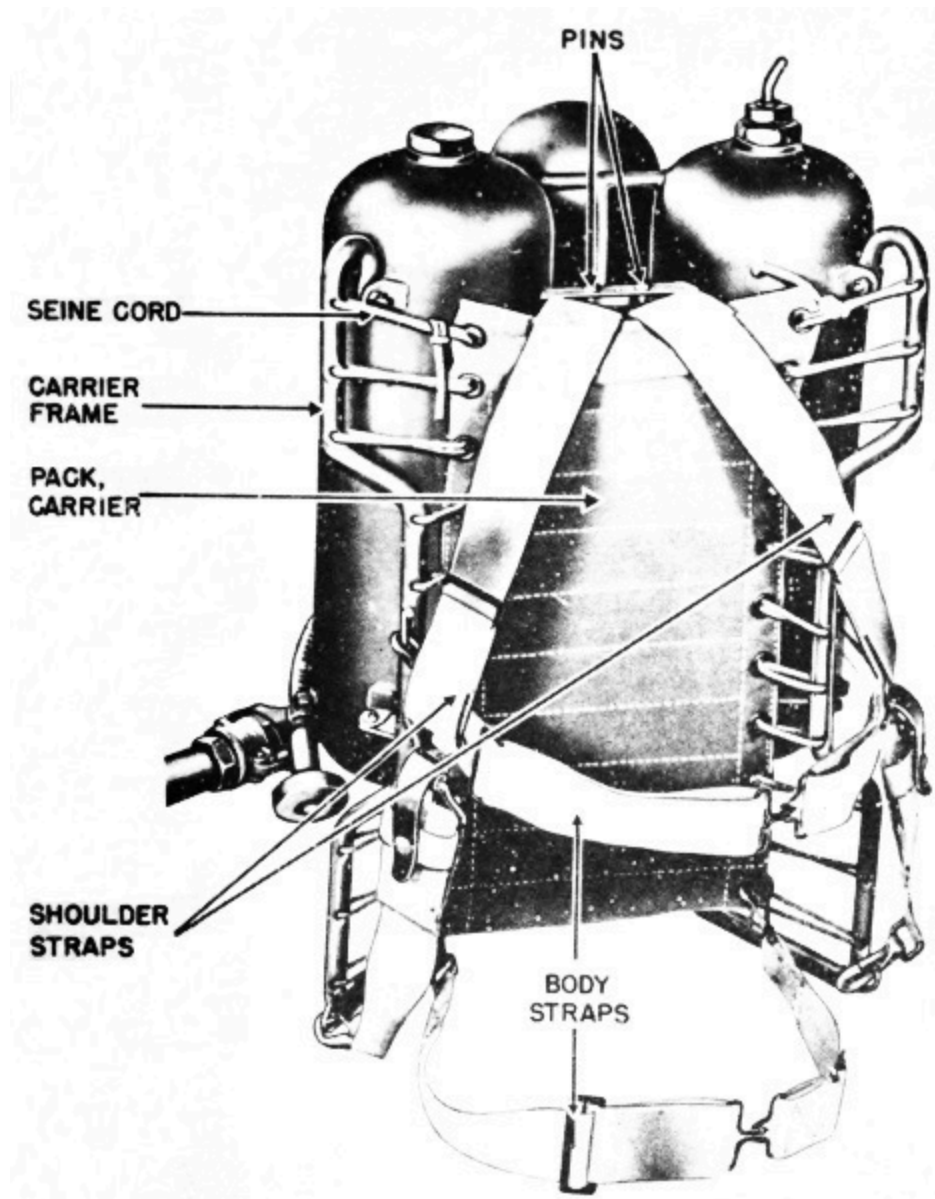

Fig 46. Carrier assembled on tank group.
a. Description and functioning. (Fig 46) The tank group is securely carried on the firer's back and chest by the carrier, which includes the metal carrier frame, the canvas carrier pack, webbing straps, and cord, all of which are parts of the tank group.
(1) Carrier frame. This lightweight, tubular-metal frame is bolted to two pairs of brackets (upper and lower) on the fuel tanks. It is also bolted to the hose connector by the frame clamp, which helps support the connector. The frame is pierced by two parallel series of holes, through which the cord (lashing) of the carrier is laced.
(2) Carrier pack. This is a sheet of heavy canvas, reinforced on the tank side with strips of webbing. The smooth side of the carrier pack rests against the firer's back and cushions the back from contact with the metal tanks. A series of eyelets is located on each side of the pack.
(3) Seine cord (lashing). The carrier pack is fastened to the carrier frame by means of hard-braided cord which is laced through the eyelets in the pack and the holes in the frame. The cord that comes on the flame thrower stretches very little under load.
(1) To install carrier frame (or a complete carrier) place frame in position adjacent to fuel tanks (Fig 46), insert bolts in holes, place lock washers and nuts on bolts, and tighten with screw driver and wrench. Replace frame clamp on fuel connector and frame. Insert bolt in holes, place lock washer and nut on bolt. Tighten with screw driver and wrench.
(2) If carrier pack has been removed, use cord to relash. Lace tight and use slip-proof knots. (Fig 46)
(3) To install straps, snap ends of body straps and lower ends of shoulder straps into positions shown in Figure 46. Place upper ends (steel loops) of shoulder straps in steel support between fuel tanks. Insert two pins through any two of the holes in the support and through the shoulder strap loops. Insert cotter pins in holes in pins and spread cotter pins to lock pins in place.